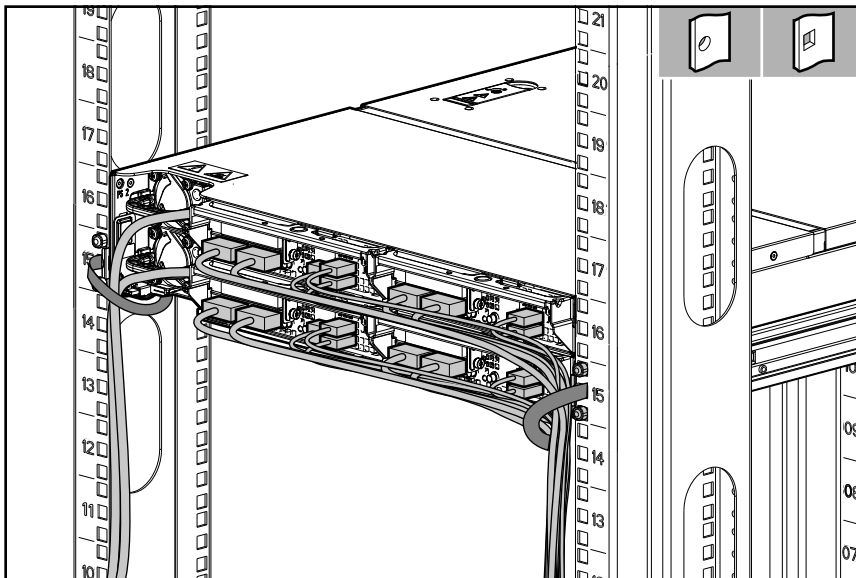

Figure 4: Cable management with tie wraps
- Using the holes provided in the rear rack rails, install the tie wraps and route external cables as required as shown in Figure 4.